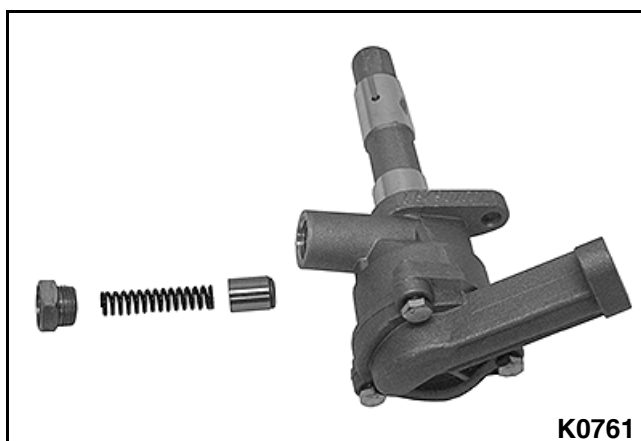

Figure 3-196
1. Install the relief valve, spring, and plug into the oil pump body. **See Figure 3-196.**